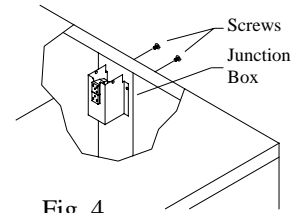

Fig. 4
- **Remove junction box.** The electrical junction box is located in the upper inside of the left center post. Remove the two screws and pull box out from panel for access to plug wiring (Fig. 4).